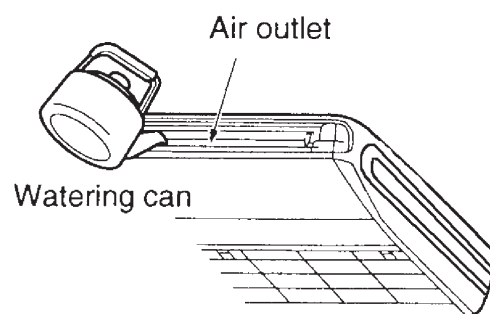

Fig.5
- Pour 600 cc of water into the drain pan from the air outlet for confirming drainage.(Refer to Fig.5)